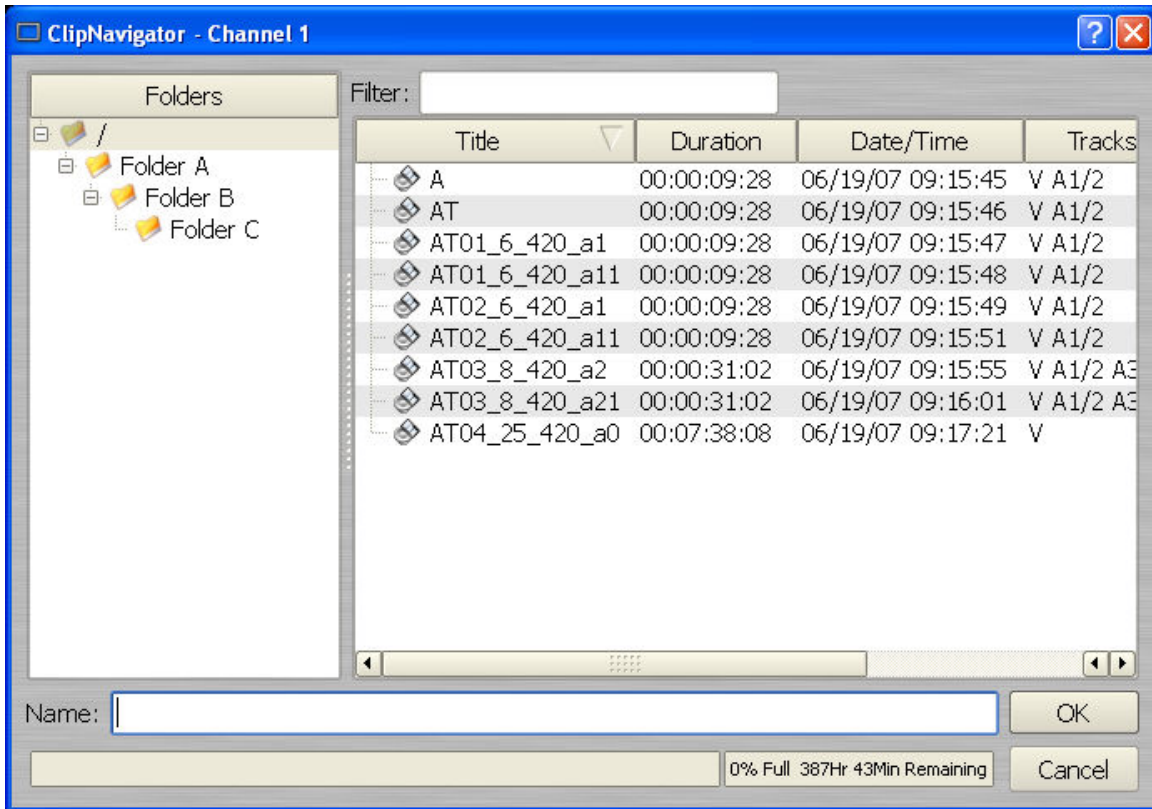

Figure 12 - Channel 1 Clip Navigator "New" mode
- A. From the Channel 1 Transport Window, Select **FILE->NEW**. The dialog of Figure 12 appears.